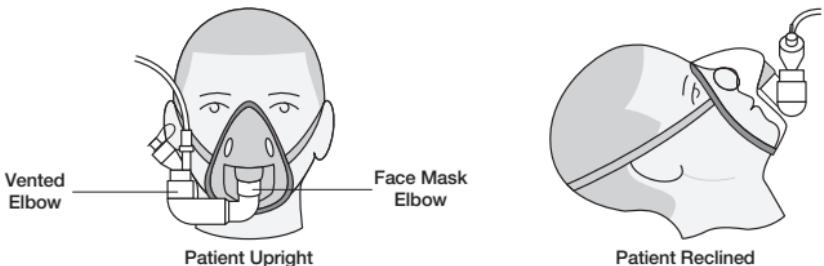
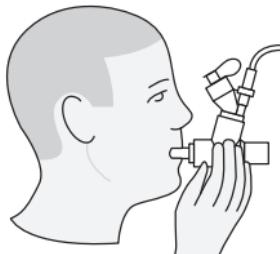
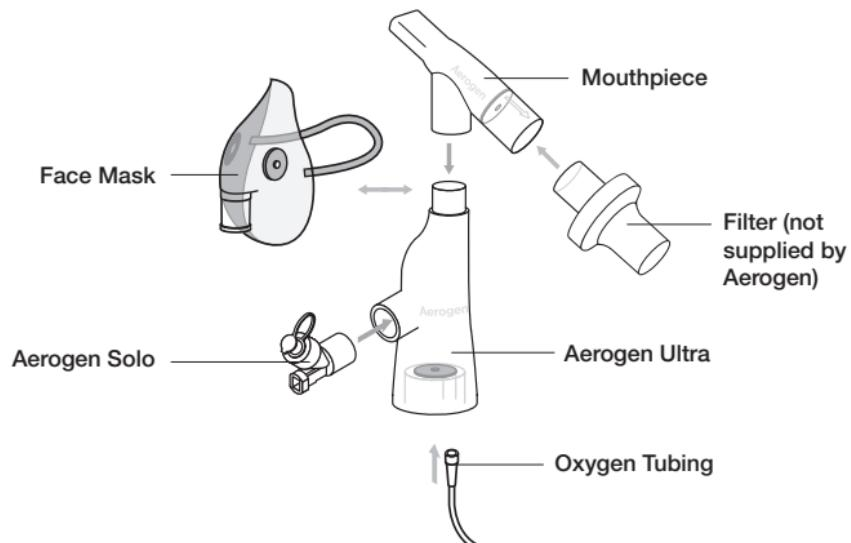

Figure 12. Connecting to a mask
Figure 13. Connecting to a mouthpiece
Figure 14. Assembly of Aerogen Ultra
**Note:** For use with other accessories, refer to Figure 12, Figure 13 and Figure 14.
2. Rotate the vented elbow to suit the position of the patient (Figure 12).
When using a mouthpiece, connect the nebulizer to the T-piece and then connect the T-piece to the mouthpiece by pushing the parts firmly together as shown in Figure 13.
**Warning:** To ensure correct nebulization, maintain the nebulizer in a vertical orientation (Figure 12 & Figure 13).
- A. Insert the Aerogen Solo nebulizer firmly into the Aerogen Ultra in orientation shown in Figure 14.
- D. If use of a filter is required, the Aerogen Ultra Mouthpiece has a 22mm(F) ISO 5356-1 connection port to facilitate the attachment of a ISO 5356-1 compliant filter port.